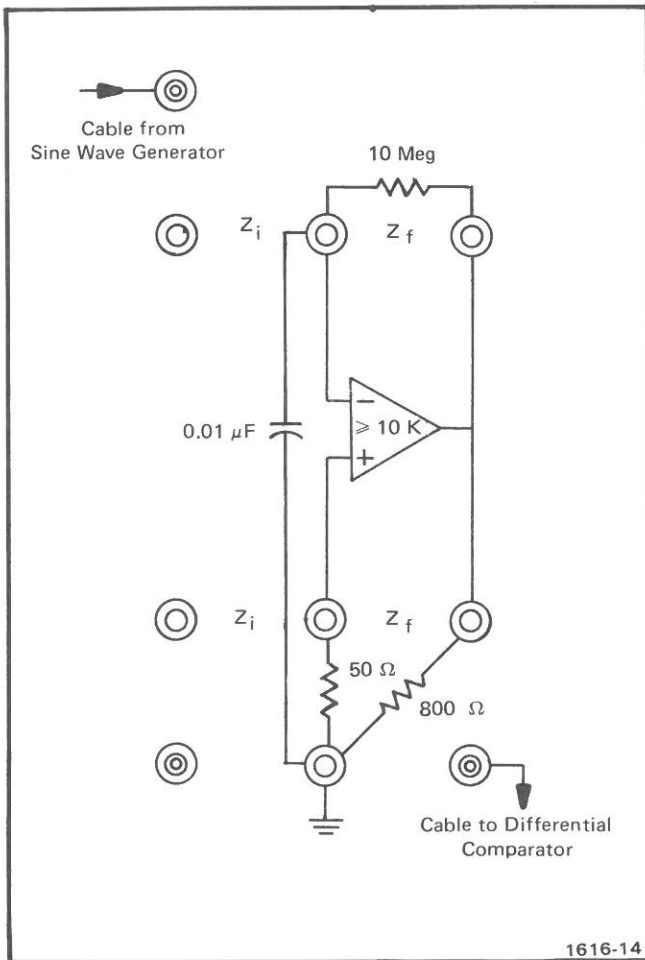

Fig. 2-5. Operational amplifier connected to check Unity Gain Bandwidth.
a. Connect the $800\ \Omega$, $50\ \Omega$, $10\ \text{M}\Omega$ resistors, and $.01\ \mu\text{F}$ capacitor to the terminals of the AM 501 as illustrated in Fig. 2-5.